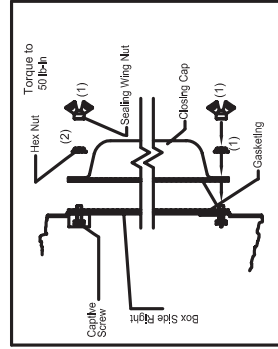

Figure 4: Installing the Closing Cap Right
- 19.- Place the closing plate provided with the transition section so that the holes of the closing plate align with the holes of the right side of the last new style EZM panelboard of the meter center. Slide the three 1/4-20 capScrews in the right side of the panelboard through the holes in the box side and gasketing until the threads engage in the 1/4-20 nuts provided in the bag assembly. All three screws and nuts must be tightened to 50 lb-in. Do not overtighten. Sealing wing nuts are provided in a bag assembly in the transition section. Use one at top and one at bottom of closing cap when required (refer to figure 4).